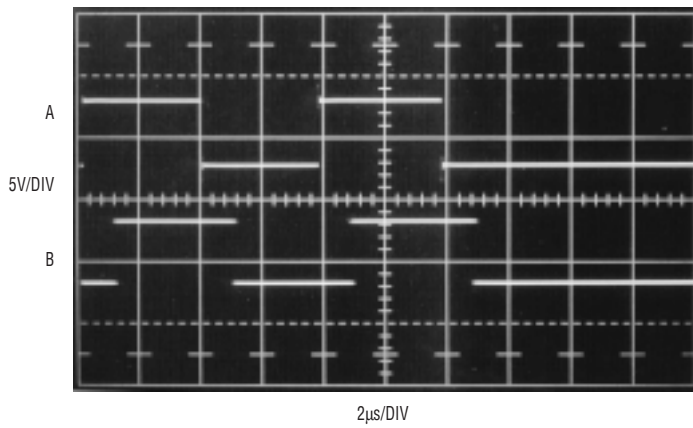
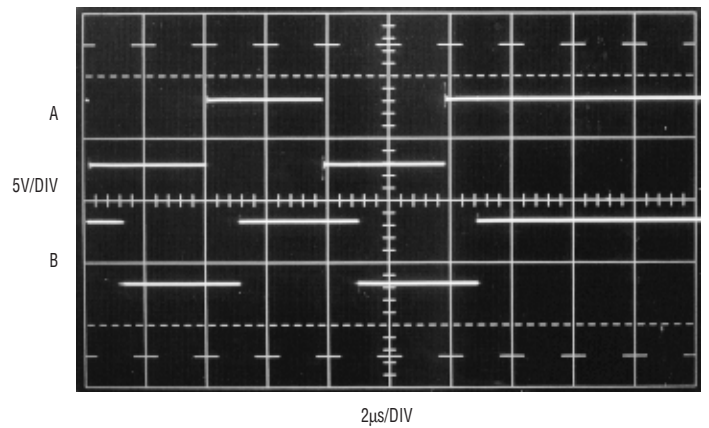

Figure 2. Positive-going double-pulse behavior: A = driver input, B = receiver output
Figure 3. Negative-going double-pulse behavior: A = driver input, B = receiver output
data; this limits the useful baud rate to approximately $500k$ Bd. At $350k$ Bd, the jitter is guaranteed to be less than 10%. Figure 2 shows a double pulse propagating through the LTC1535. Waveform (A) is the transmitter data input and waveform (B) is the output of the receiver. The transmitter and receiver are looped back on the isolated side of the chip. The typical jitter is hardly visible. A negative-going double pulse is shown in Figure 3. The LTC1535 transceiver is unaffected by the DC average of the data waveform. Total round-trip propagation delay through the LTC1535 is approximately $1\mu s$ or roughly equivalent to 328 feet of cable.